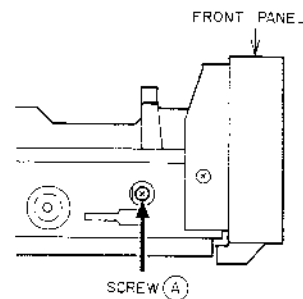
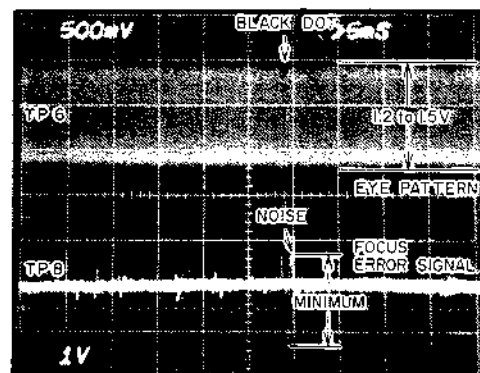

Fig. 7-2
Fig. 7-3
- 4) Turn the adjustment screw A by degrees (Refer to Fig. 7-2) as waveform (Refer to Fig. 7-3) of TP7 will become maximum.